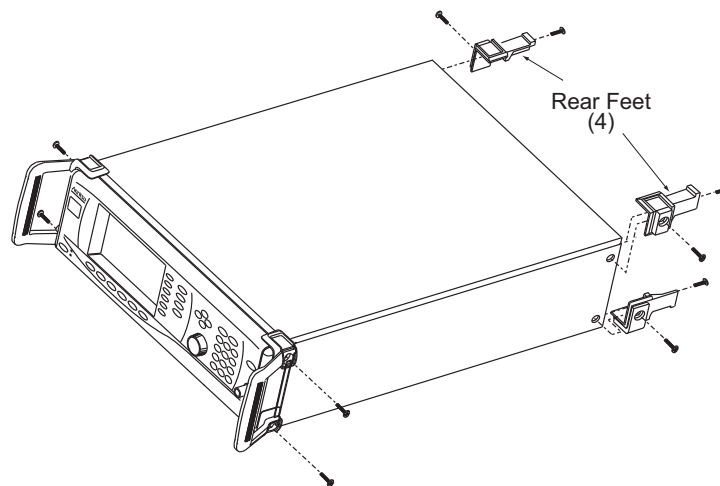

Figure 7-1. Front Handle and Rear Feet Removal
1. Use a Phillips screwdriver to remove the screws and the front handle assemblies from the instrument (see Figure 7-1). For models not having front handles, remove the screws and the front top and bottom feet from the instrument. Retain the screws.